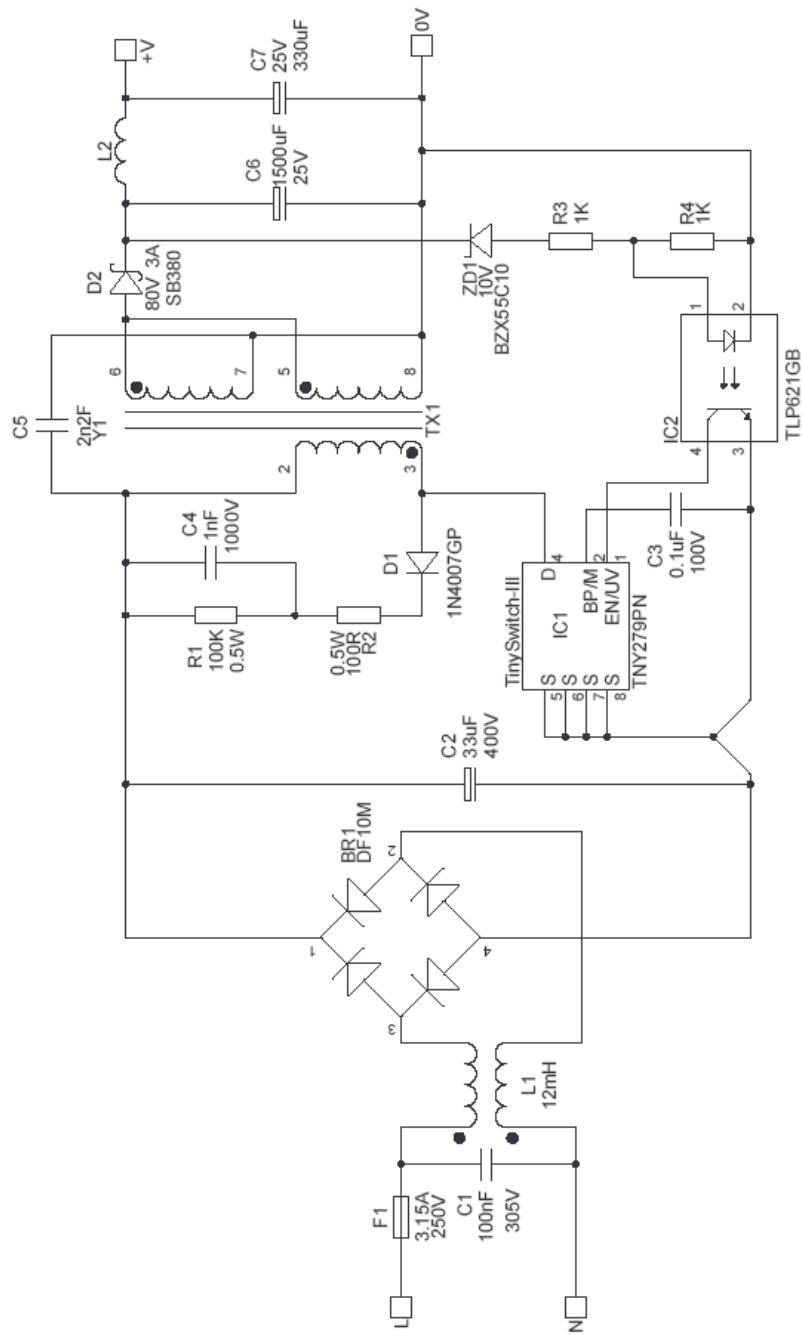

Figure 2 – ADAK-91B Schematic.
This flyback power supply was designed around the TNY279P (IC1 in Figure 2). The output voltage is sensed and fed back to IC1 through optocoupler IC2. That feedback is used by IC1 to maintain constant voltage (CV) regulation of the output.